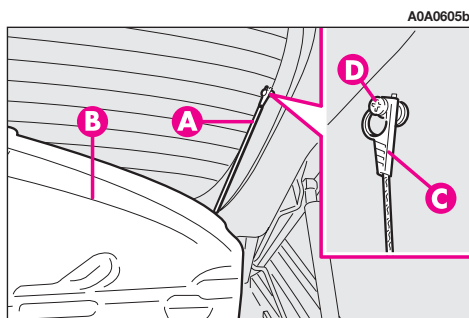

fig. 18
- free the ends of the two rods (**A**-fig. 18) supporting the parcel shelf (**B**) pulling the eyelets (**C**) off the pins (**D**);